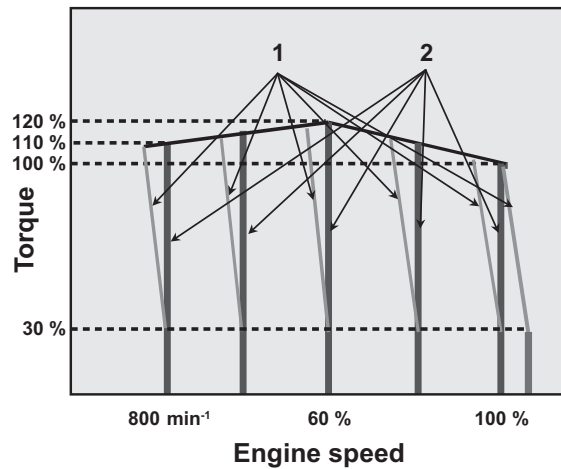

Figure 19
The VM series engines for general use are designed so that the engine speed is reduced by a certain percentage from 30 % load to full rated load. See curves (1) in Figure 19 below. The same percentage droop is maintained at any no-load speed.
The CL series consists of isochronous design engines, the speed of which is kept constant from no load to full rated load. See curves (2) in Figure 19 below.